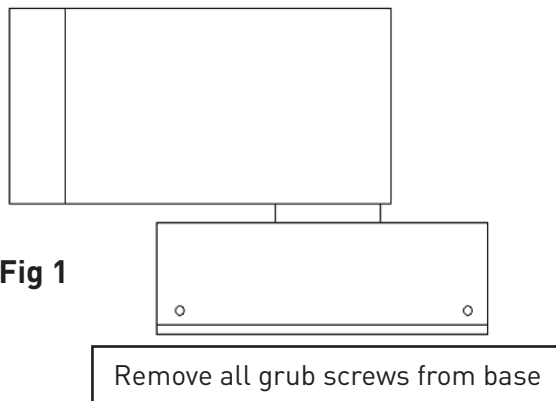

Fig 1
- Using the correct size Allen key remove the 3 grub screws securing the base plate of the luminaire (see Fig 1)